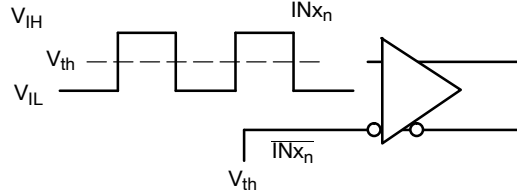

Figure 5. Differential Input Driven Single-Ended
### DIFFERENTIAL INPUT DRIVEN SINGLE-ENDED (Note 6) (Figures 5 and 6)
8. Differential 50% duty cycle at  $V_{INPPmin}$  clock source. Outputs evaluated with 50  $\Omega$  resistors to  $V_{TT} = V_{CC} - 2.0$  V (See Figure 16). Input crosspoint to output crosspoint for INxn/INxn̄ to Qx, Qx̄; 50% input to output crosspoint for SELx to Qx, Qx̄. See Figures 5, 10 and 11.